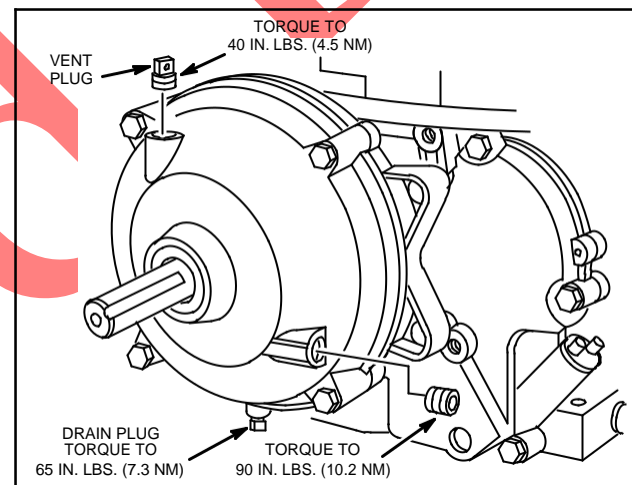

Fig. 143 - FILLING GEAR CASE
5. Install vent plug in top hole, if so equipped, and torque to 40 in. lbs. (4.5 Nm), Fig. 143.